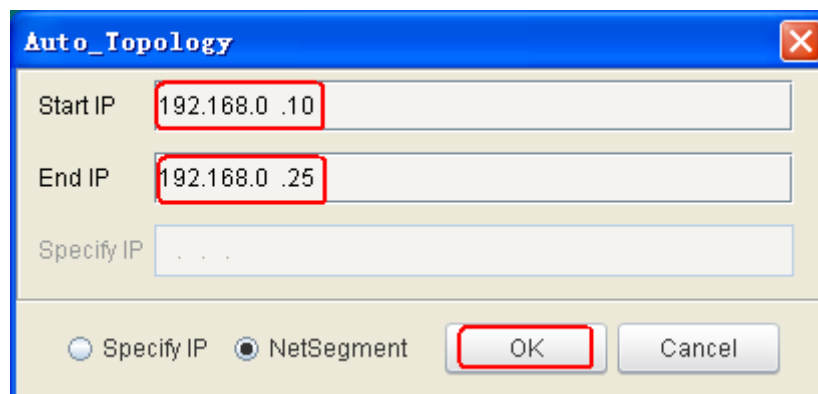

Figure 32 Specifying a Network Segment for Auto-Topology
1. Click  in the topology toolbar. The Auto\_Topology dialog box is displayed, as shown in Figure 32.